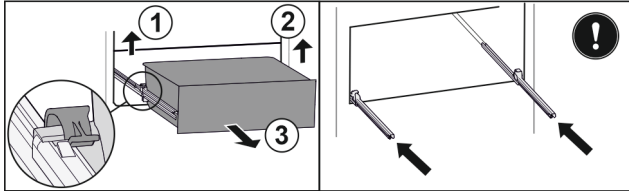

Fig. 68
- ▶ Lift left clamp and simultaneously pull drawer forwards on the left. Fig. 68 (1)
- ▶ Lift right clamp and simultaneously pull drawer forwards on the right. Fig. 68 (2)
- ▶ Remove drawer to the front. Fig. 68 (3)